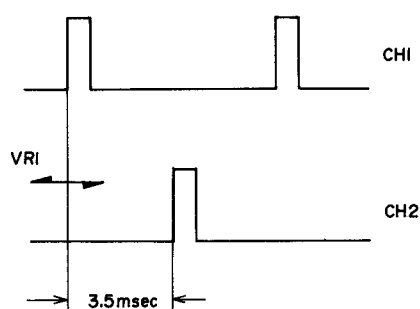
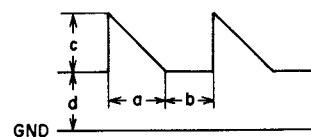

Fig. 16
Fig. 17
- d) Connect the oscilloscope's CH-1 to P5-② and CH-2 to P5-③.
- f) Adjust the VR2 (20 k Ω) so that the phase different between CH-1 and CH-2 is 3.5 msec as shown in Fig. 16.
- g) Connect the oscilloscope to P5-④.
- h) Adjust VR1 (500 k Ω) and VR2 (20 k Ω) so that the $a=b$ and $c=d$ as shown in Fig. 17.